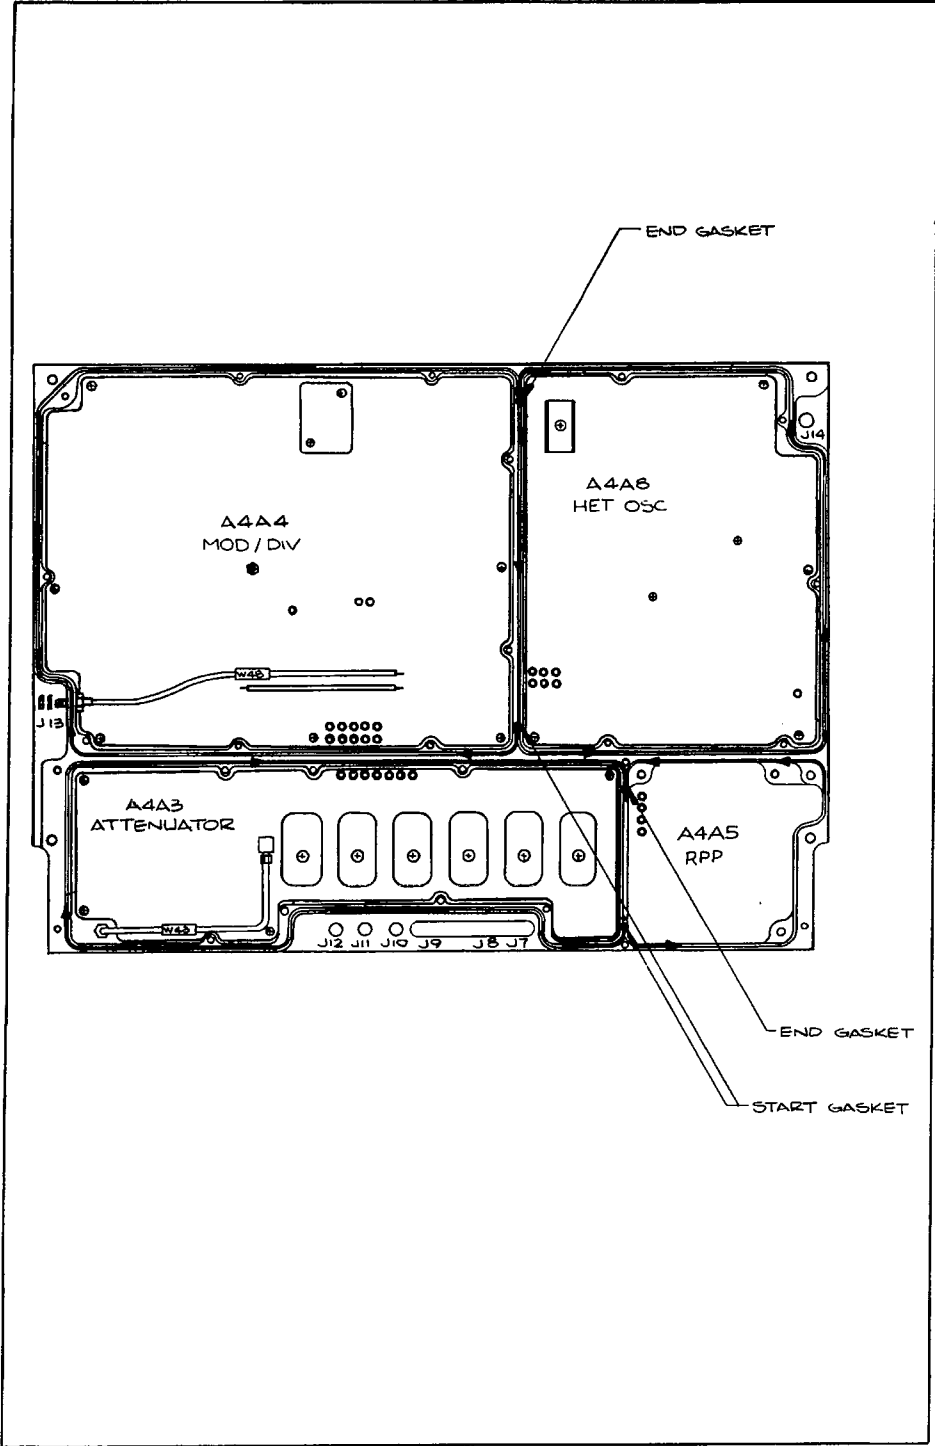

Figure 3-9. RF Gasket Positions - Top of Output Module
2. Make sure the RF gaskets are in place (Figure 3-9) and inspect the RF gaskets for damage (areas that are folded over, worn, or pinched).
- a. Start the gasket at the START GASKET point shown in Figure 3-9.
- c. The end of the gasket should be at the TERMINATE GASKET point shown in Figure 3-9.